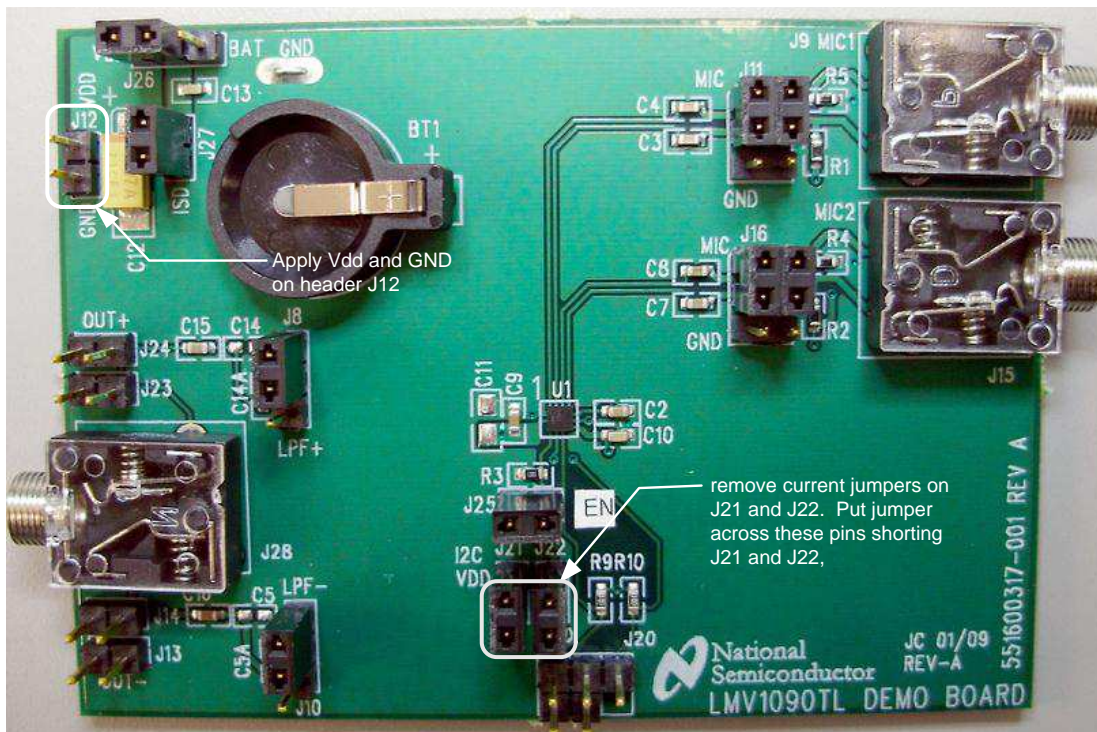

Figure 3. Power Supply Connectors and Headers
- Using the external supply via header J12 for V_{DD} and GND. I^2CV_{DD} pin can get its supply from the V_{DD} pin by placing a jumper across J21 and J22. See Figure 3.